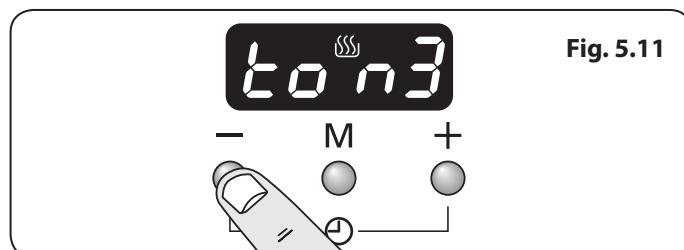

Fig. 5.11
- To select the tone press the [-] button until desired tone is reached (**Fig. 5.11**).